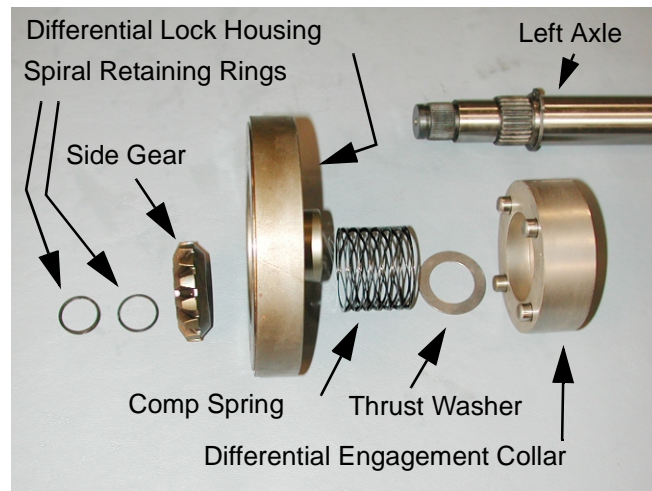

Figure 32
43. Remove the 14T side gear, differential lock housing, thrust washer, comp spring and differential engagement collar from the left axle, and inspect for wear or damage. See Figure 32.